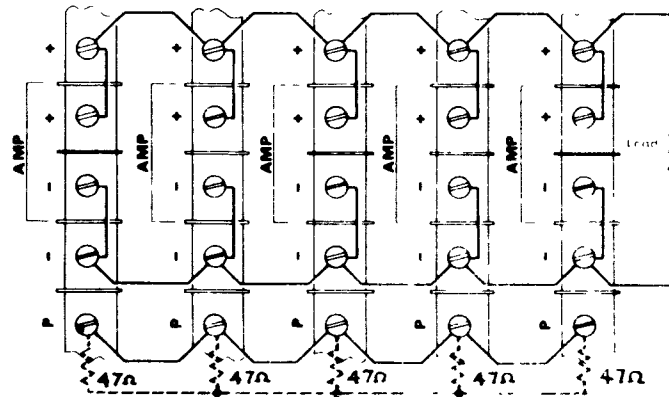

Fig 4 Parallel operating connections
Parallel operation (fig. 4)
26. When more than five units are operated in parallel the units should be connected using 47 ohm $\frac{1}{2}W$ resistors as shown in fig 4.